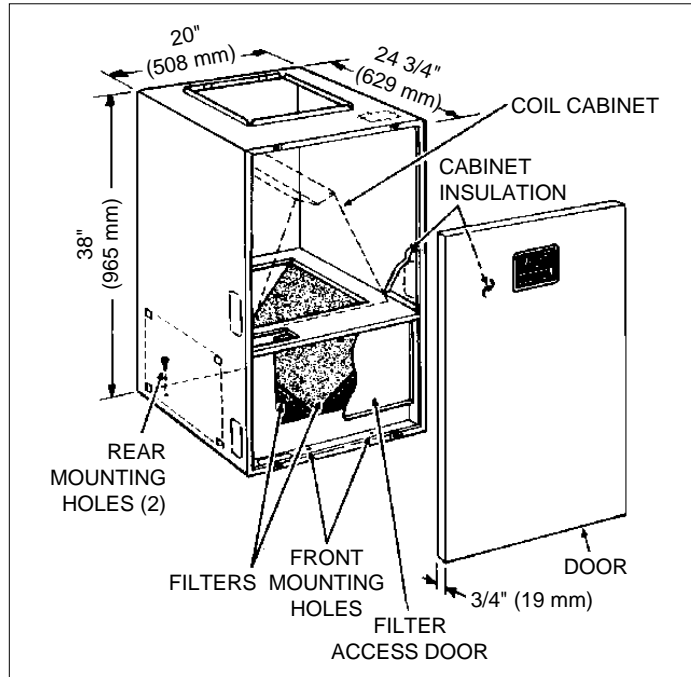

Figure 1. Upflow Coil Cabinet
1. If not already provided, cut return air opening(s) in bottom or side(s) of coil cabinet. Refer to Figure 1 and do the following: